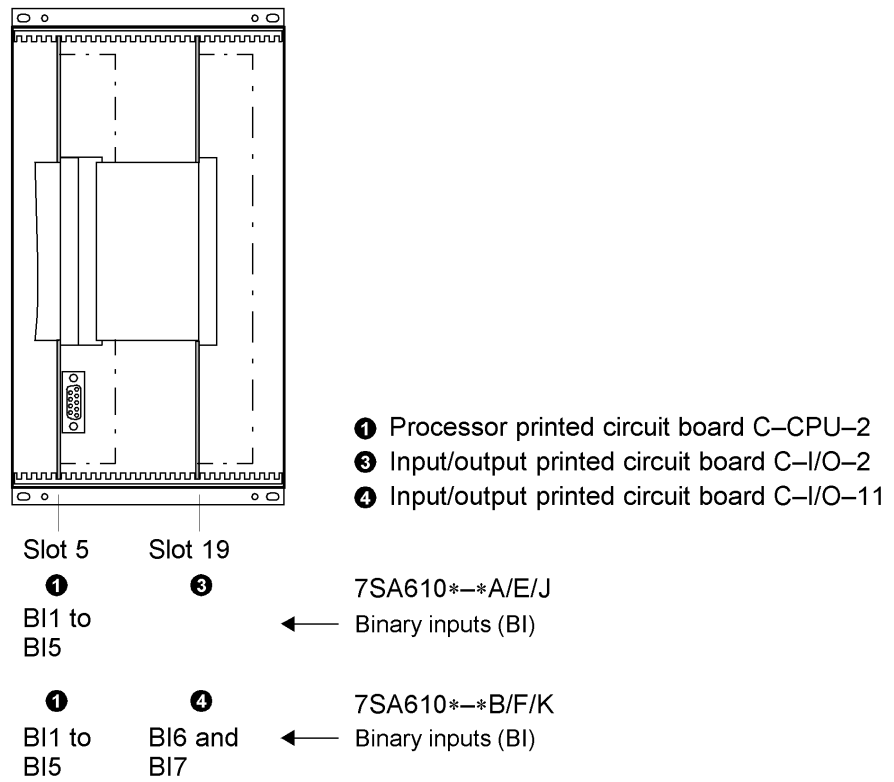
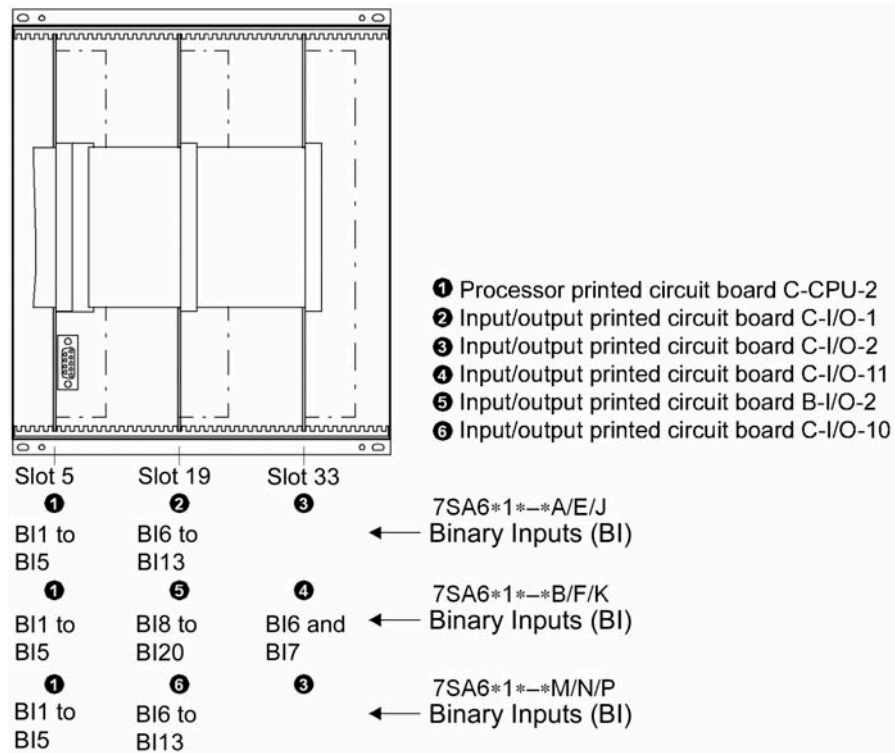
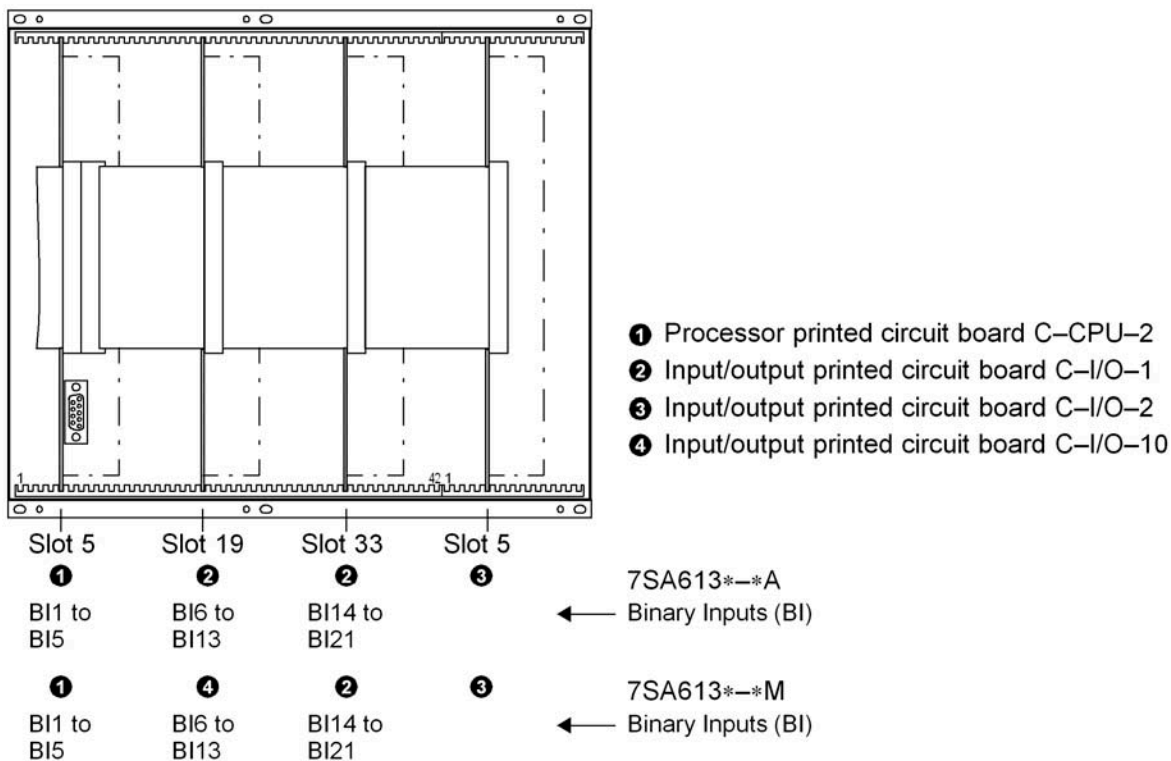
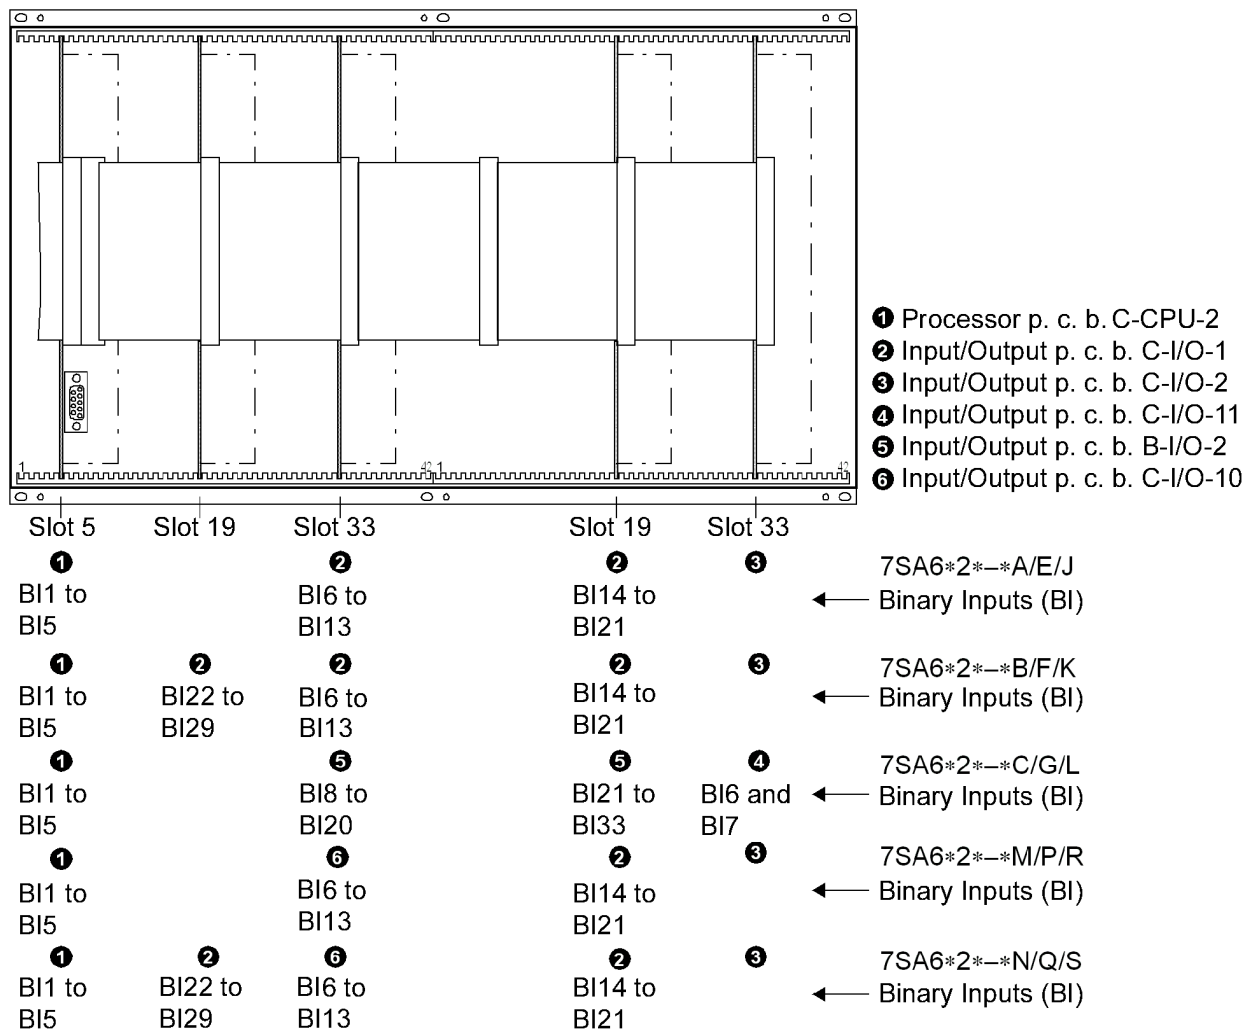

Figure 3-3 Front view with housing size $\frac{1}{3}$ after removal of the front cover (simplified and scaled down)
Figure 3-4 Front view with housing size $\frac{1}{2}$ after removal of the front cover (simplified and scaled down)
Figure 3-5 Front view with housing size $\frac{2}{3}$ after removal of the front cover (simplified and scaled down)
Figure 3-6 Front view with housing size $\frac{1}{4}$ after removal of the front cover (simplified and scaled down)
For the assembly of the boards for the housing $\frac{1}{3}$ refer to Figure 3-3, for the housing $\frac{1}{2}$ refer to Figure 3-4, for the housing $\frac{2}{3}$ refer to Figure 3-5 and for housing $\frac{1}{4}$ refer to Figure 3-6.
- Disconnect the plug connector of the ribbon cable between the front cover and the processor board C-CPU-2 at the front cover side. Press the top latch of the plug connector up and the bottom latch down so that the plug connector of the ribbon cable is pressed out. This action does not apply to the device version with detached operator panel. However, on the central processor unit C-CPU-2 (No. 1 in Figure 3-3 to 3-6) the 7-pole plug connector X16 behind the D-subminiature connector and the plug connector of the ribbon cable (connected to the 68-pole plug connector on the rear side) must be removed.
- Disconnect the ribbon cables between the processor board C-CPU-2 (No. 1 in Figure 3-3 to 3-6) and the input/output board I/O (according to order variant No. 2 to No. 6 in Figure 3-3 to 3-6).
- In version 7SA6*1*-***A/E/J** (housing size $1\frac{1}{2}$ with 16 binary outputs) this is valid for the binary output BO9 (Figure 3-4, slot 19);
- In versions 7SA6*2*-***A/E/J** (housing size $1\frac{1}{4}$ with 24 binary outputs) this is valid for the binary outputs BO9 and BO17 (Figure 3-6, slot 33 left and slot 19 right);
- In versions 7SA6*2*-***B/F/K** (housing size $1\frac{1}{4}$ with 32 binary outputs) this is valid for the binary outputs BO9, BO17 and BO25 (Figure 3-6, slot 33 left, slot 19 right and slot 19 left);
- In versions 7SA6*2*-***M/P/R** (housing size $1\frac{1}{4}$ with 24 binary outputs) this is valid for the binary output BO17 (Figure 3-6, slot 19 right);
- In versions 7SA6*2*-***N/Q/S** (housing size $1\frac{1}{4}$ with 32 binary outputs) this is valid for the binary outputs BO17 and BO25 (Figure 3-6, slot 19 right and slot 19 left),
- In versions 7SA613*-***A** (housing size $2\frac{1}{3}$ with 24 binary outputs) this is valid for the binary outputs BO9 and BO17 (Figure 3-5, slot 19 and slot 33 left);
- In versions 7SA613*-***M** (housing size $2\frac{1}{3}$ with 24 binary outputs) this is valid for the binary output BO17 (Figure 3-5, slot 33 left).